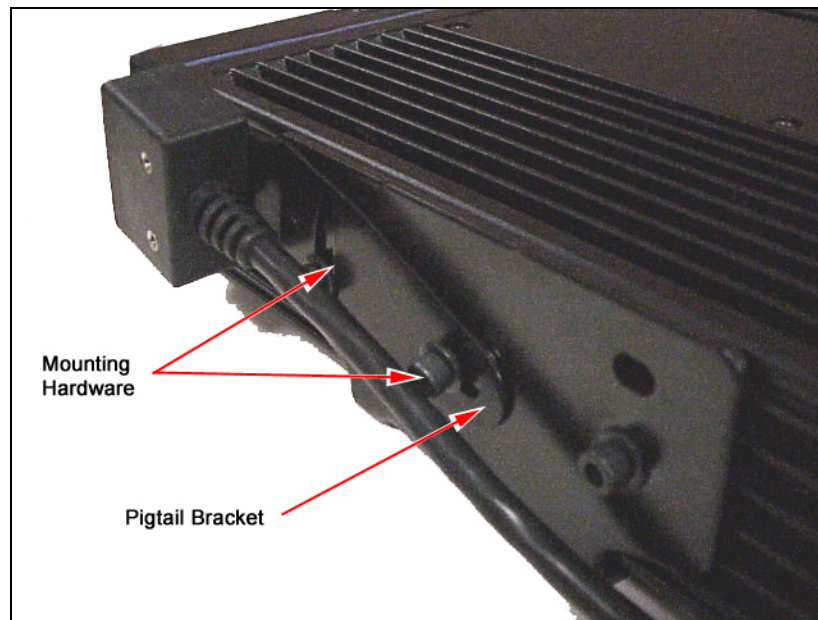

Figure 9-12: Pigtail Bracket Mounted on Radio
5. The other slot in the Pigtail Bracket will enable flexible positioning of the pigtail. Position the bracket, and insert the remaining M5 x 10mm hex head screw and lockwasher. Tighten both of the hex head screws to 7 N·m (61 in-lb) to maintain the desired Pigtail position. See Figure 9-12.